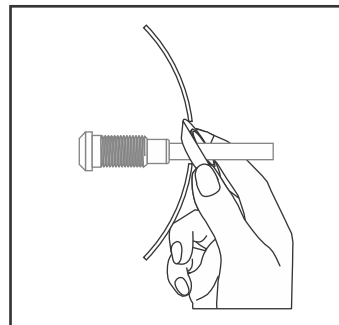

Fig. 44: Install Seal
5. Install Seal: Slide the seal, flared side away from the hole onto the handle. Using thumb and fore-finger, squeeze the seal together and work it into the hole around the handle. (Fig. 44)
5. Install Seal: Slide the seal, flared side away from the hole, onto the handle. Using thumb and forefinger, squeeze the seal together and work the seal into the hole around the handle. (Fig. 44)